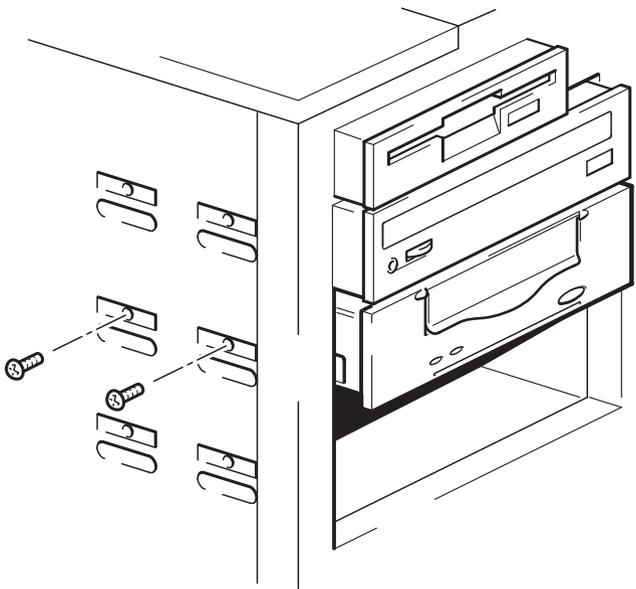

Figure 9b: securing drive, no mounting hardware
- 1 Secure the tape drive into place. Check that the holes in the chassis are aligned with the holes in the sides of the tape drive and use the screws provided with the rail kit to secure the drive, as shown in figure 9b.